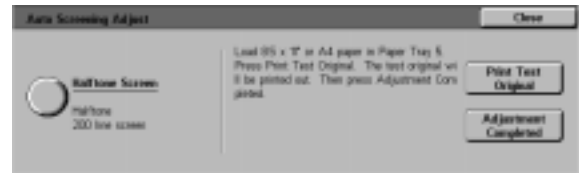

Figure 52: Auto Screening Adjust screen
- 2 Touch the **Auto Screening Adjust** icon to display the Auto Screening Adjust screen, as illustrated in Figure 52.